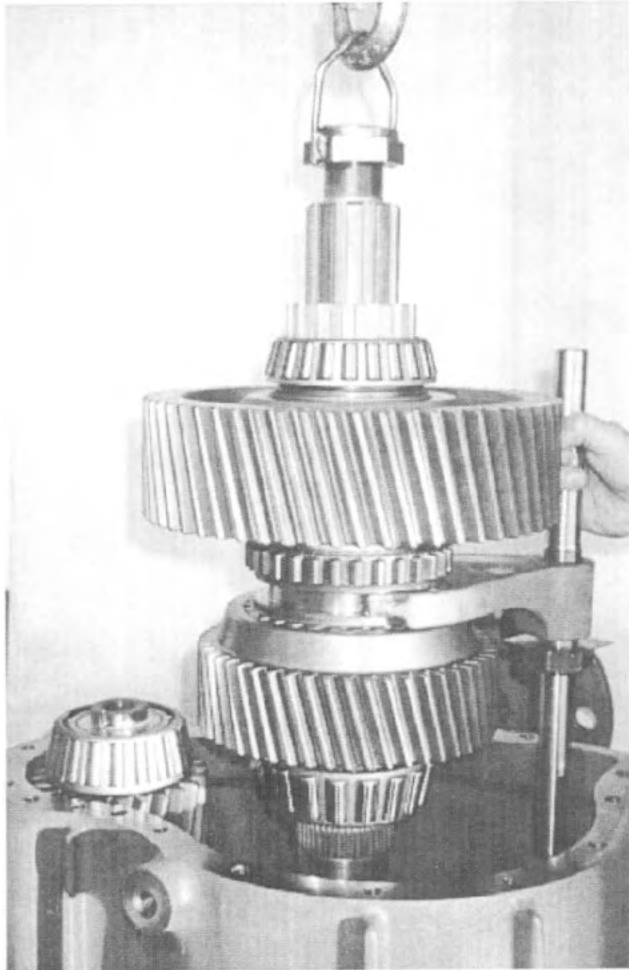

Fig. 63
7. Install the shifter shift fork assembly onto the rear output shaft assembly. Make sure that the flat side of the shift fork faces the underdrive gear. See Fig. 63.